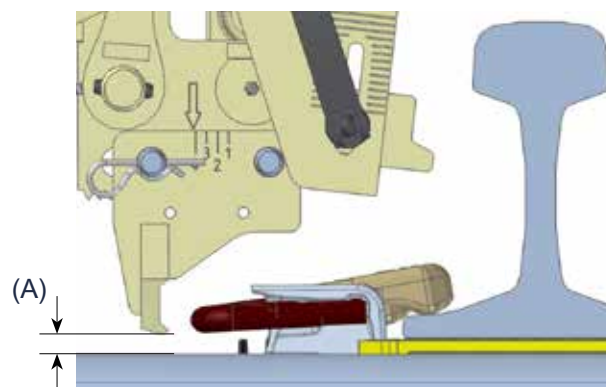

Fig 72.
The distance (A), Fig 72 should be between 10-13 mm for FASTCLIP FE and 8-11 mm for FASTCLIP FC.